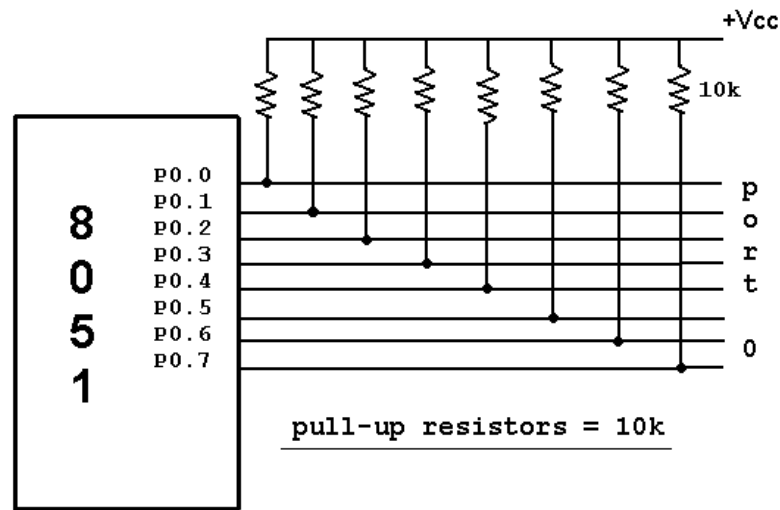

Fig 4.10 PORT 0 With Pull-Up Resistor Connection
- ❖ Unlike other ports, Port 0 is **not provided with pull-up resistors internally**, so for PORT0 pull-up resistors of nearly 10k are to be connected externally as shown in the fig.4.10.